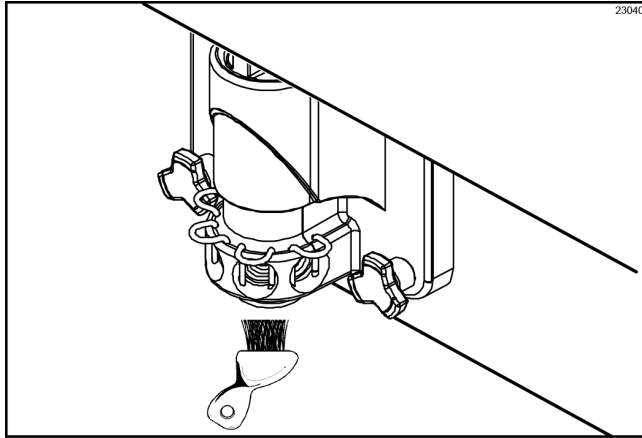

Figure-55
10. Return to the freezer with a small amount of cleaning solution. With a pail below the door spout, dip the door-spout brush into the cleaning solution and brush-clean the syrup ports in the freezer door, door spout, bottom of the driven spinner, spinner blade, and syrup line fittings. (See Figure-55.)